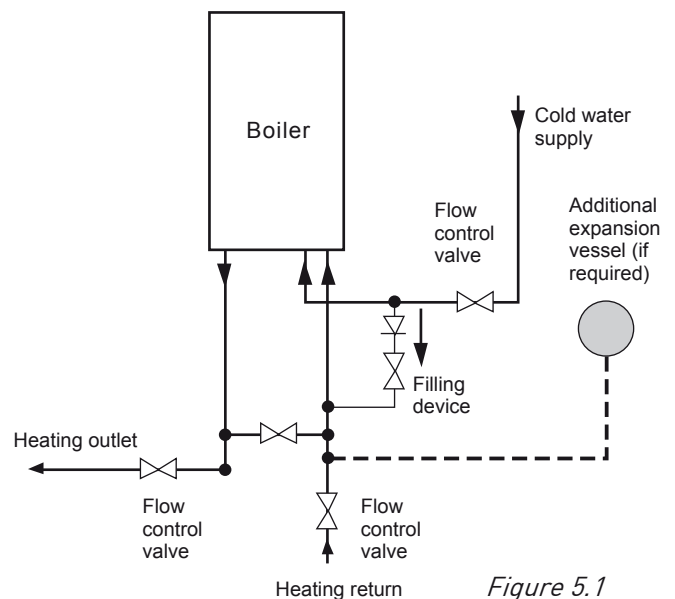

Figure 5.1
5.3 The boiler's integral expansion vessel is pre-charged to a pressure of 1 bar and will accommodate a system volume of 125 litres. at an average water temperature of 75°C and maximum system pressure of 3 bar. If the system volume is more than 125 litres. an additional expansion vessel must be fitted to suit the size of the system. A typical installation of an additional pressure vessel is shown in Figure 5.1